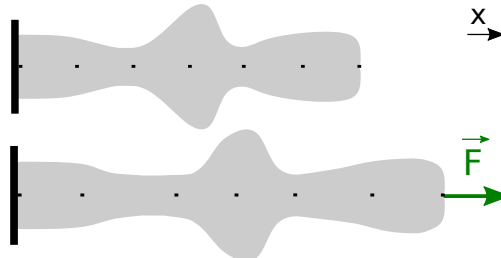

Figure 2: Longitudinal deformation of a free form object
- b) Same questions for the object in figure 2. Conclusion : what are the links and differences between ε , u , the macroscopic strain and the object's total elongation?